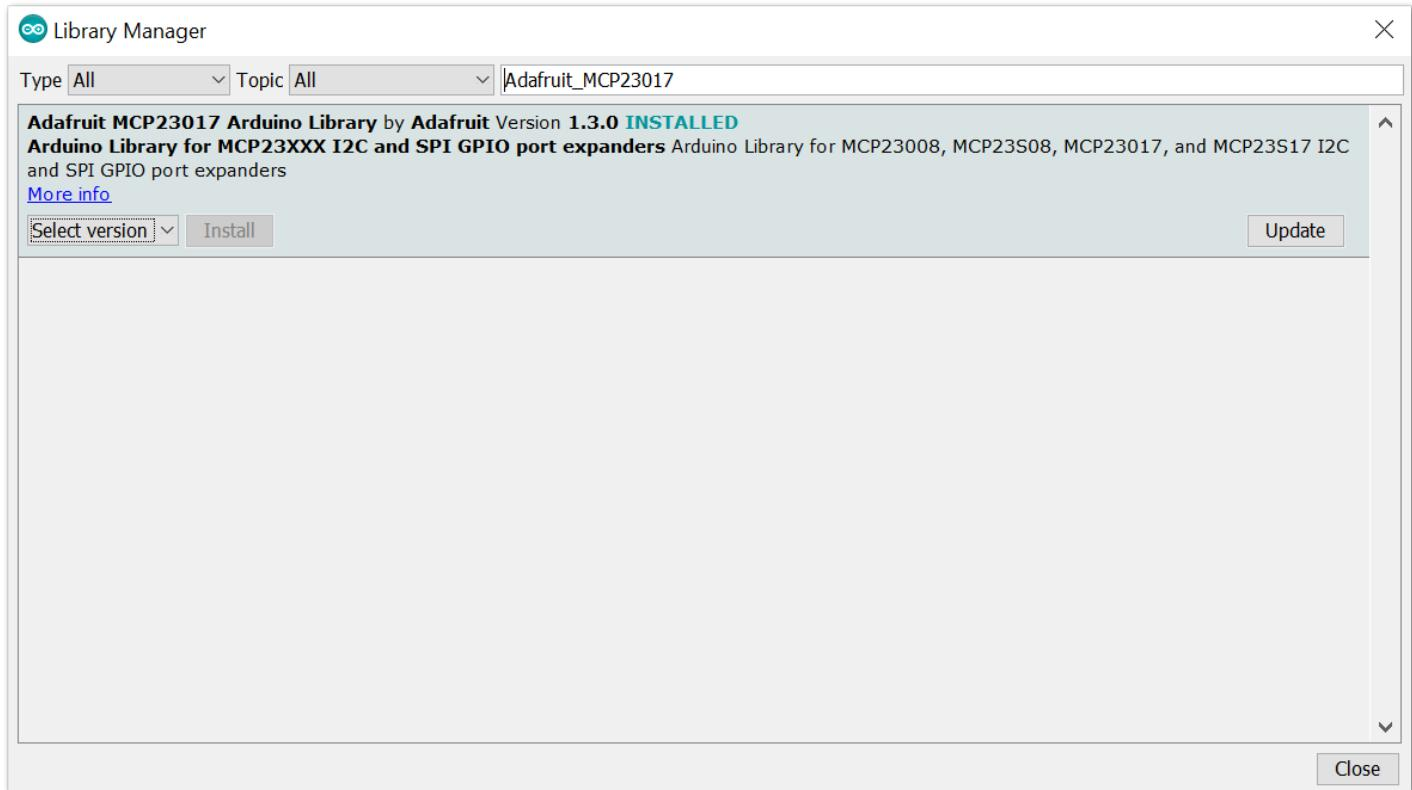

Figure 22: Selecting Version 1.3.0
4. Choose Version 1.3.0 of the library, as shown in **Figure 22**